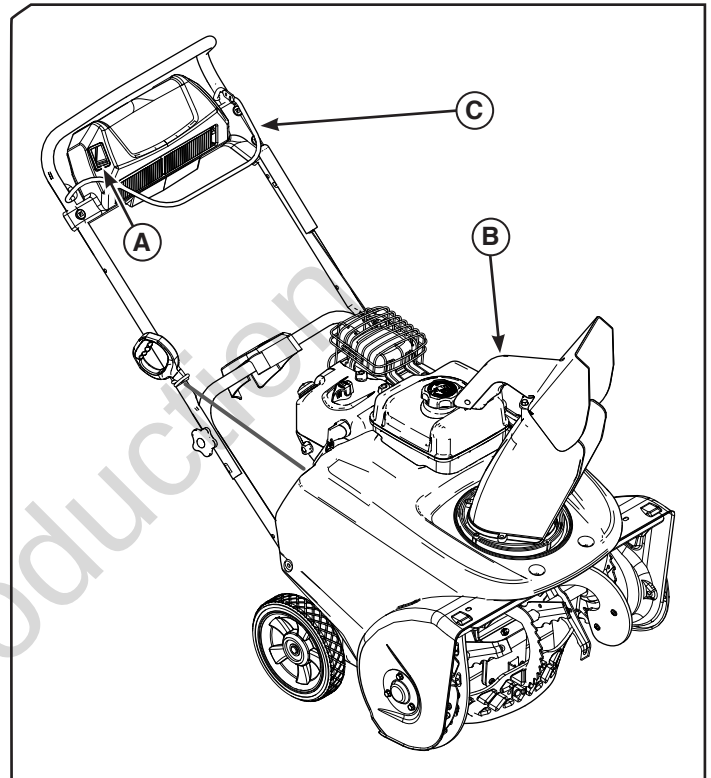
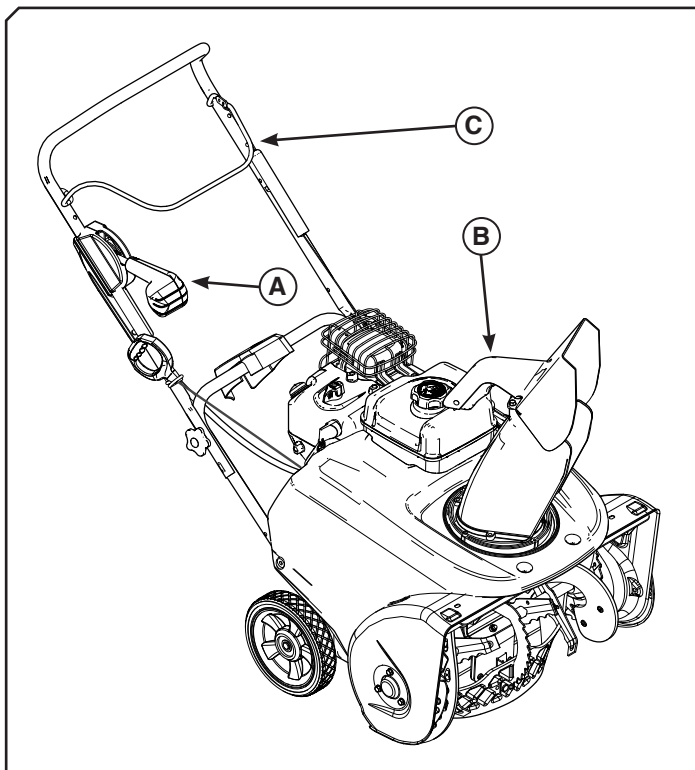

Figure 4
Figure 5
3. Pull the auger control (C, Figure 4, Figure 5) against the handle to engage the auger.
1. Start the snowthrower and engage the auger control (C, Figure 4, Figure 5) for several seconds.
1. Press the switch to rotate the chute (A, Figure 4).
1. Squeeze and hold the button on the chute control handle (A, Figure 5).
1. Squeeze and hold the button on the deflector control handle (B, Figure 4, Figure 5).